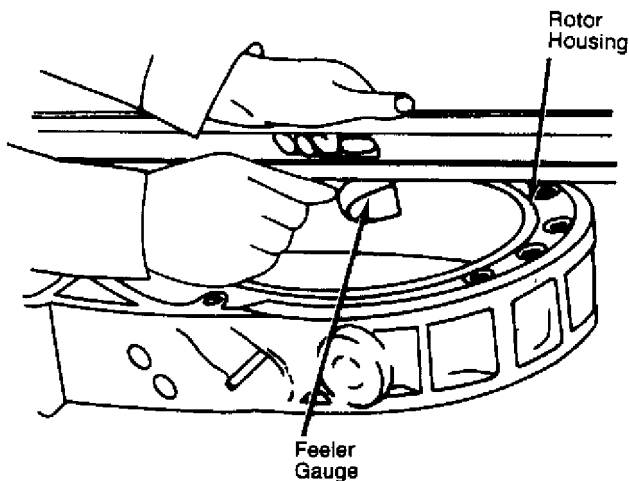

Fig. 10: Measuring Rotor Housing for Distortion
4) Place a straightedge across sealing surface of rotor housing and check for distortion with a feeler gauge. If distortion exceeds .0016" (.04 mm), replace housing. See Fig. 10.